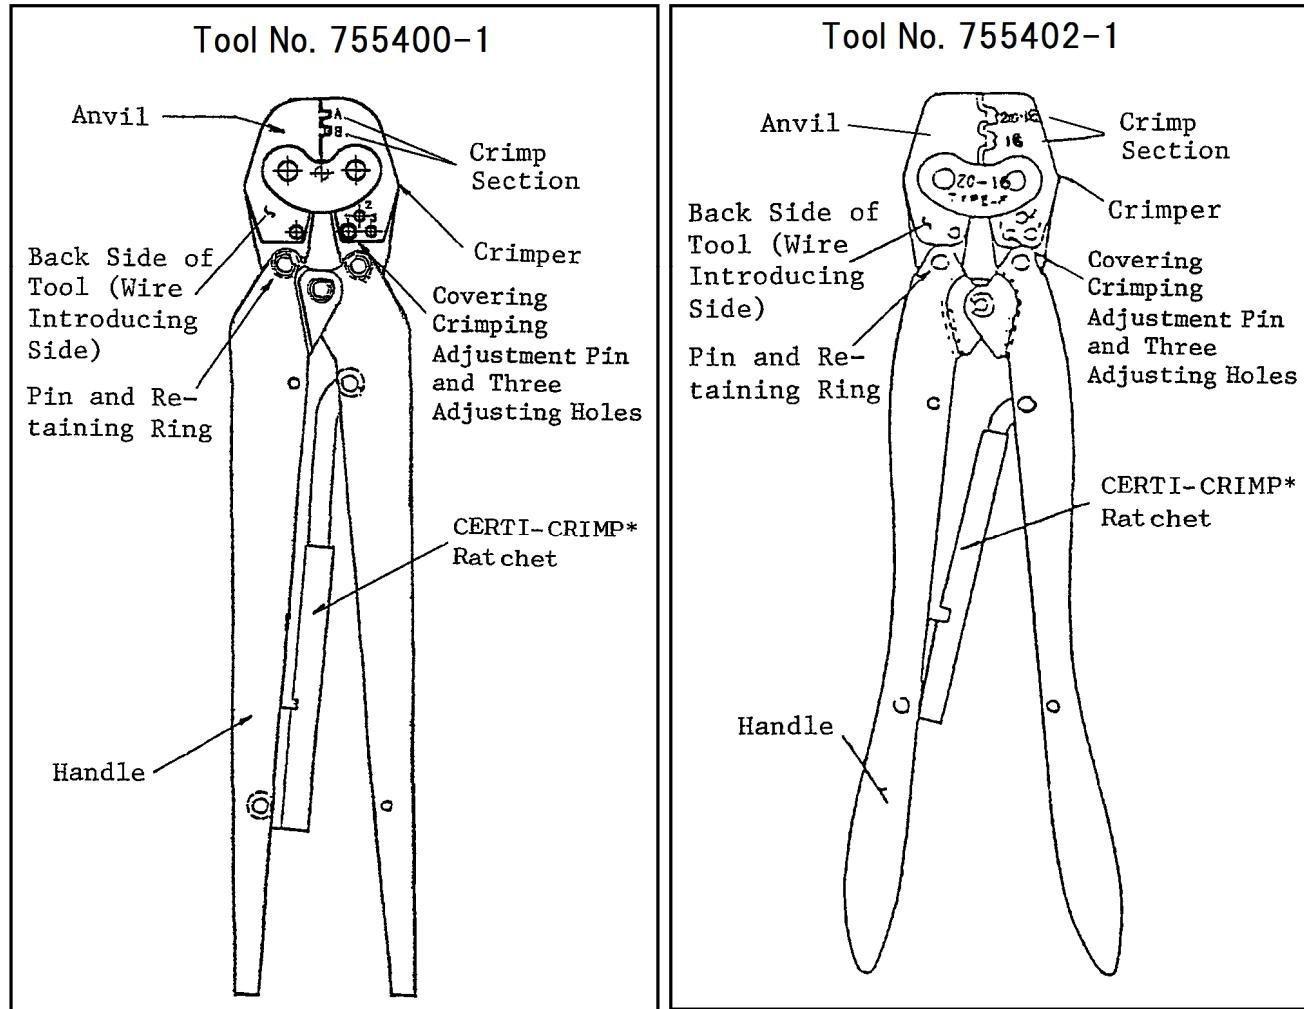

Fig. 1
- (a) The tool (shown in Fig. 1) is used for crimping terminals (shown in Fig. 2) on to stranded wires (shown in Fig. 2).
(c) The tool is provided with two crimping sections marked A and B as in Fig. 1. Crimp terminals by adequate crimping sections according to Fig. 2. If a wrong crimping section is used, the tool may be damaged or the crimping quality may be deteriorated.